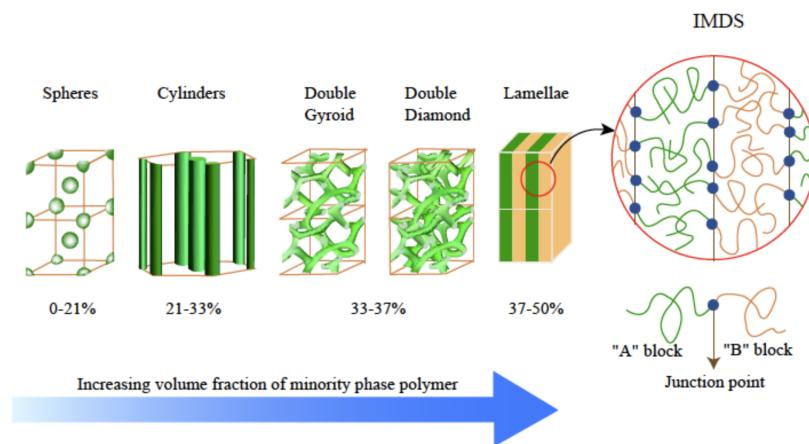

Figure 2.20: Microphase morphologies in diblock copolymers.
- In contrast to Figure 2.20, 40-60% gets you a lamellar state. This accounts for the fact that going on either side of 50% is equivalent.
- In the context of Figure 2.20's green-yellow-green-yellow lamellae,  $\lambda$  is the width of one pair of green-yellow lamellae back to back. You can think of this as a kind of “repeat unit,” the smallest structure length necessary such that upon repetition of that structure, the full lamellar mesophase is formed.